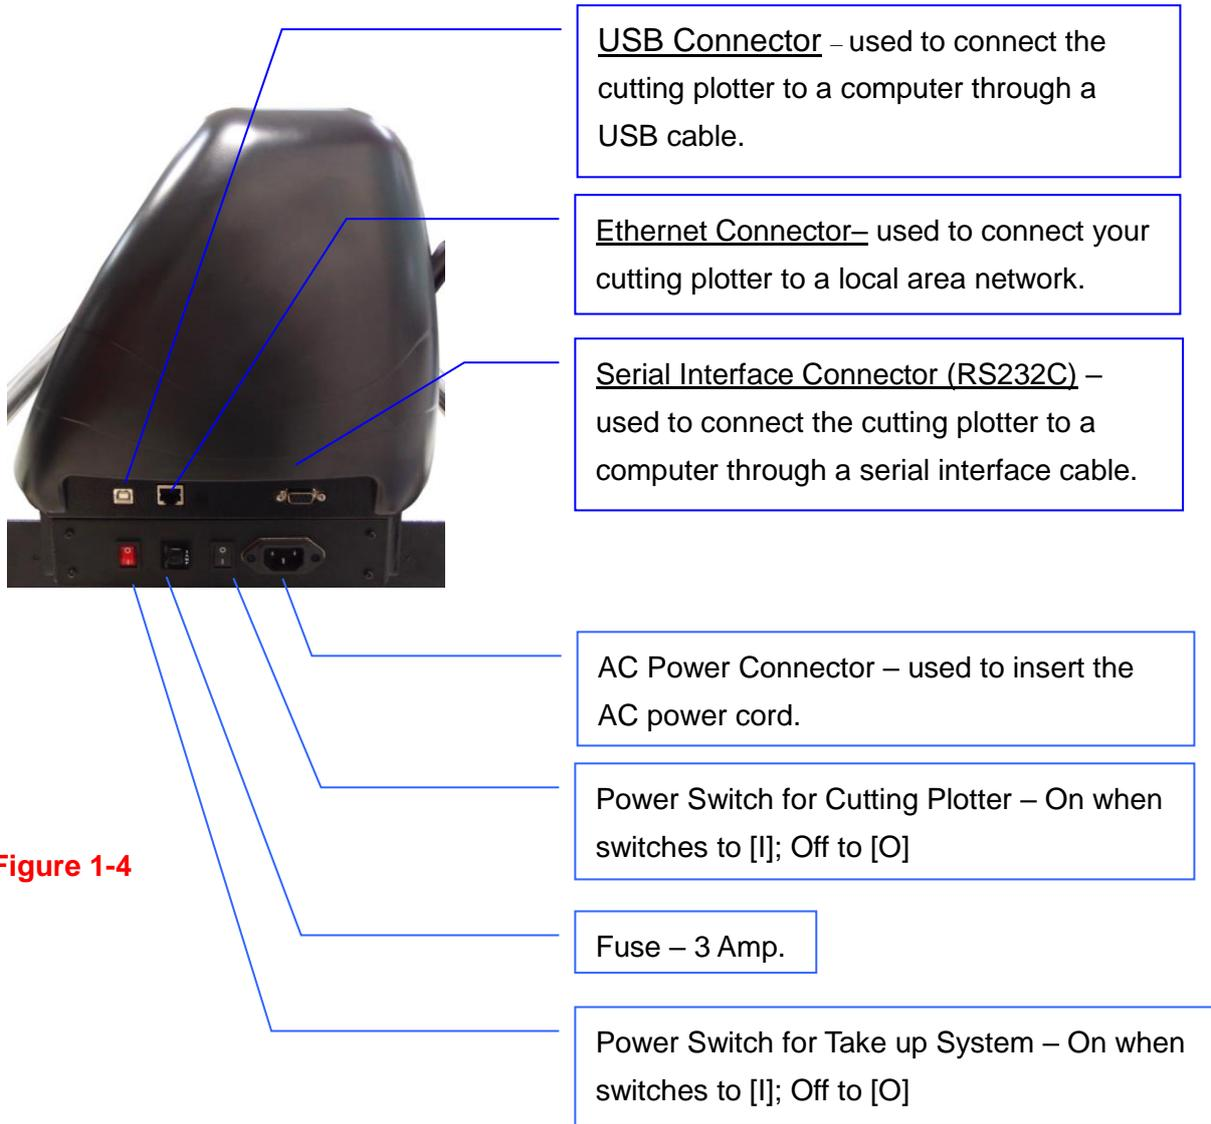

Figure 1-4
1.4.4 The Right-hand Side (Figure 1-4)